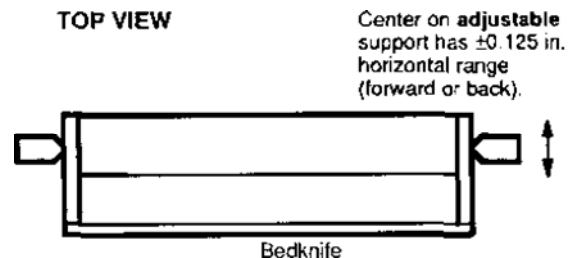

FIG. 47
**NOTE:** If the bedknife is badly worn, you may want to move the centers (on the bedknife supports) out of alignment, to avoid removing excessive metal stock from one end of the knife. Use the alignment lever on the adjustable support to move the right end of the knife forward or back as desired. The center has an adjustment range of  $\pm 0.125$ " [3.2 mm]. See FIG. 47.